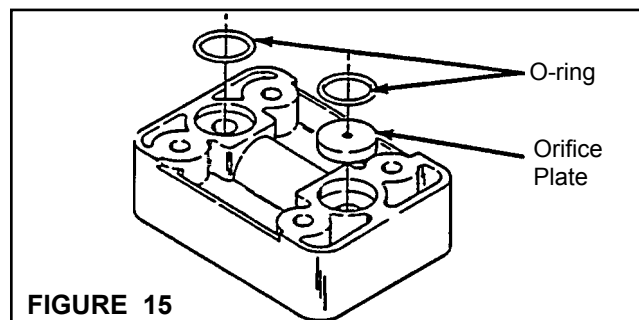

FIGURE 15
2. Remove O-ring and Orifice Plate (See Figure 15).